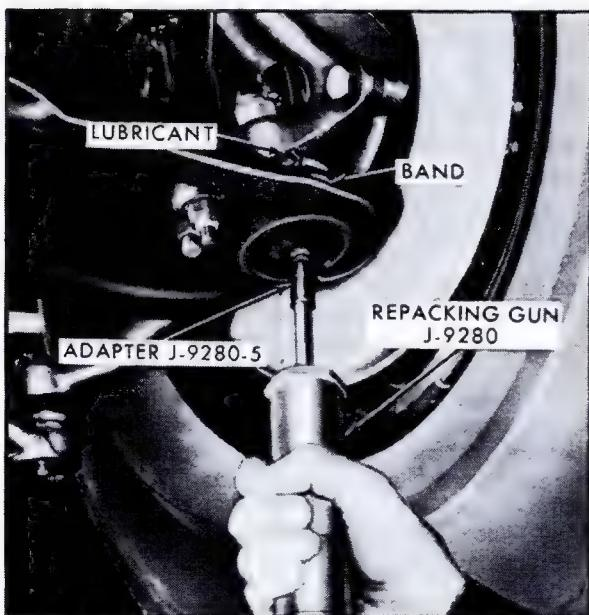

Fig. 3-14 Repacking Front Lower Spherical Joint Seal
- 3. Using Repacking Gun, J-9280, and adapter J-9280-5, apply lubricant until grease is forced out between upper end of seal and knuckle, Fig. 3-14. Any water trapped in the joint should be forced out by the fresh lubricant.
13. Using Repacking Gun, J-9280, and Adapter J-2980-5, Fig. 3-14, repack joint through plug hole with lubricant. Force lubricant into joint until enough comes through to flush out any moisture and foreign material. Usually one or two ounces will be needed. Wipe off surplus.